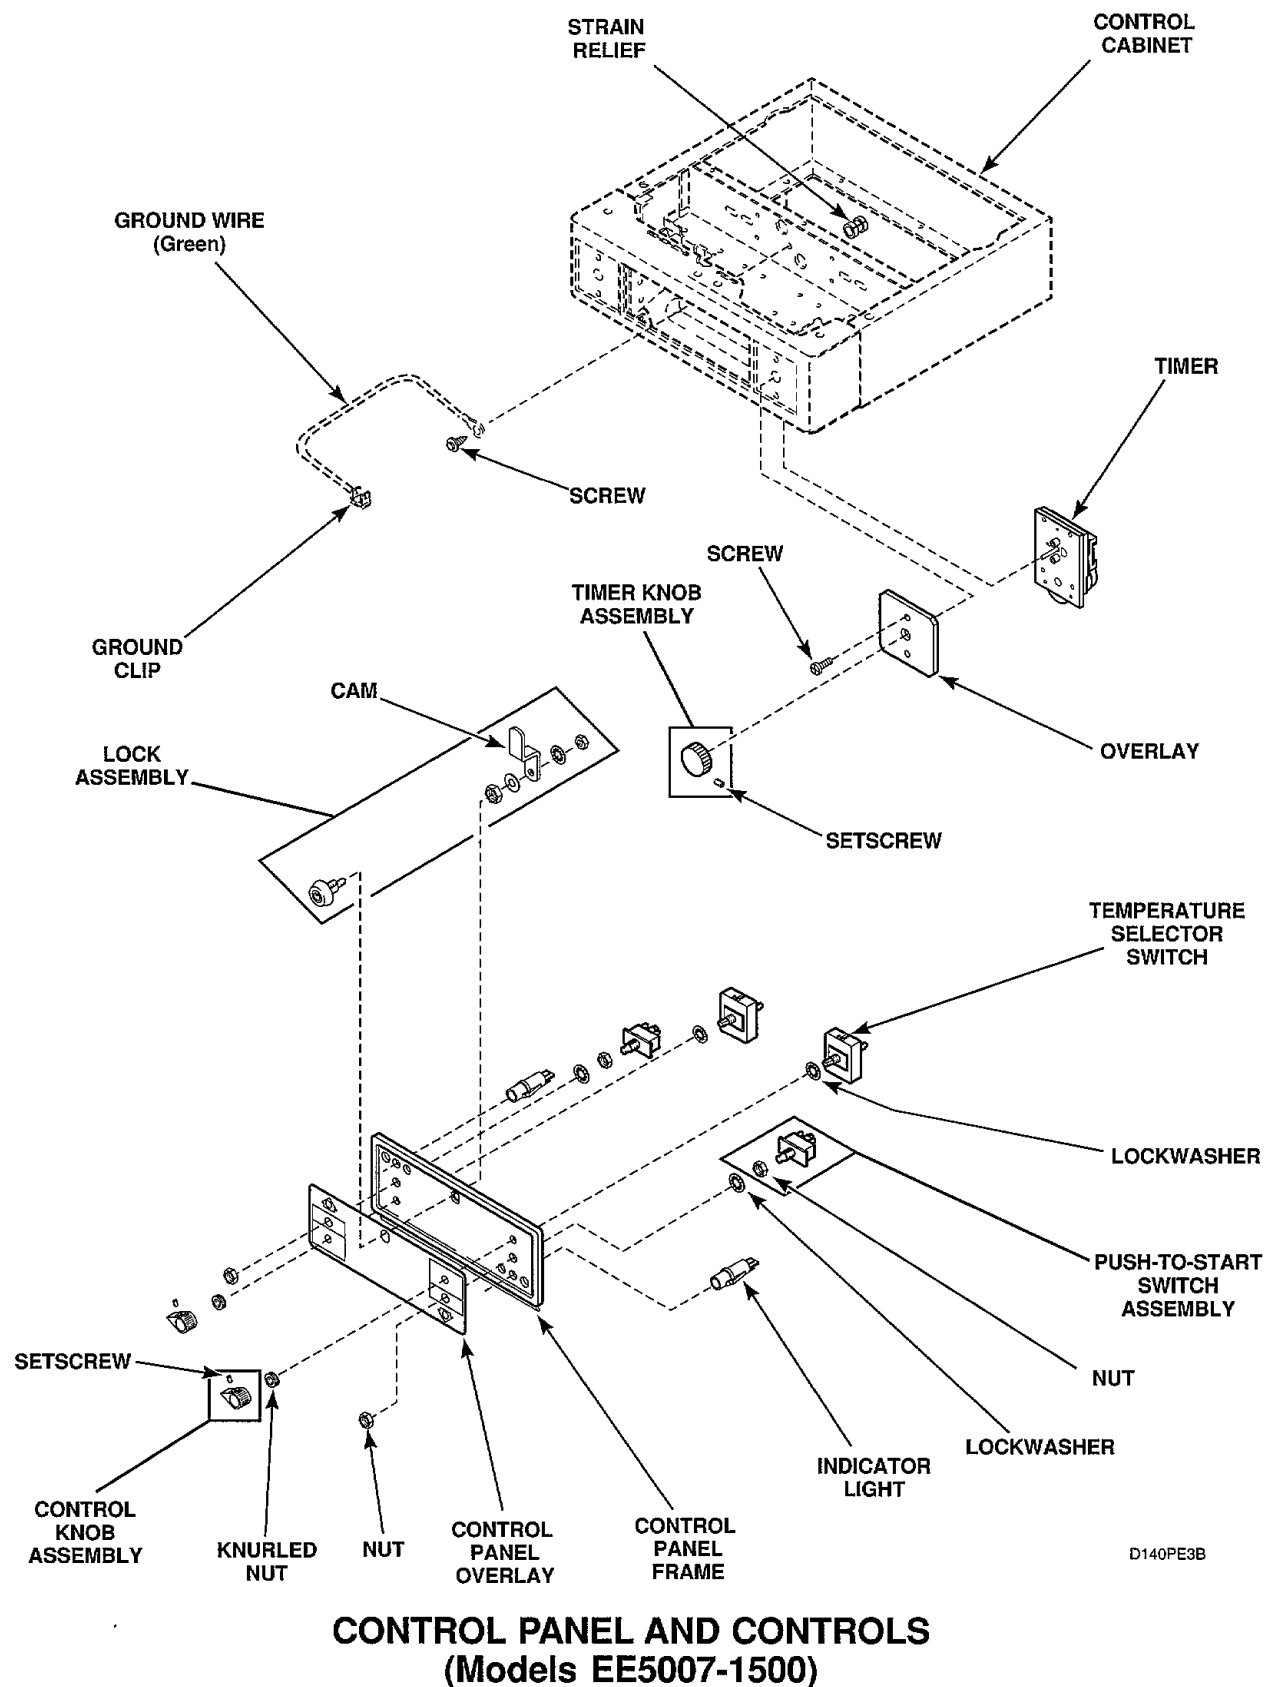

Figure 7
- Loosen setscrew holding temperature switch knob to shaft and pull knob off shaft, *Figure 7 or 8.*
- Remove knurled nut holding temperature switch to panel and remove switch, *Figure 7 or 8.*
- Remove hex nut from PUSH-TO-START switch and remove switch, *Figure 7 or 8.*
- Squeeze locking tabs on INDICATOR LIGHT and pull light out from back of panel, *Figure 7 or 8.*
- Loosen setscrew holding temperature switch knob to shaft and pull knob off shaft, *Figure 7 or 8*.
- Remove knurled nut holding temperature switch to panel and remove switch, *Figure 7 or 8*.
- Remove hexnut from PUSH-TO-START switch and remove switch, *Figure 7 or 8*.
- Squeeze locking tabs in on INDICATOR LIGHT and pull light out back of panel, *Figure 7 or 8*.
- Remove locknut and lockwasher holding cam on lock assembly, *Figure 7 or 8*.
- Remove large locknut holding lock assembly in control panel frame; then remove lock assembly out through front of control panel frame, *Figure 7 or 8*.
- Loosen setscrew in appropriate timer knob and remove knob from timer shaft, *Figure 7*.
- Reach in through control panel opening; support the appropriate timer and remove screws holding timer to control cabinet, *Figure 7*.